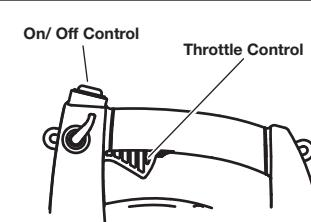

Fig. 8
NOTE: The unit should be started in idle. Do not squeeze the trigger until step 8 (Fig. 8).
- Press and hold the On/Off switch in the OFF (O) position until the unit comes to a complete stop (Fig. 8).